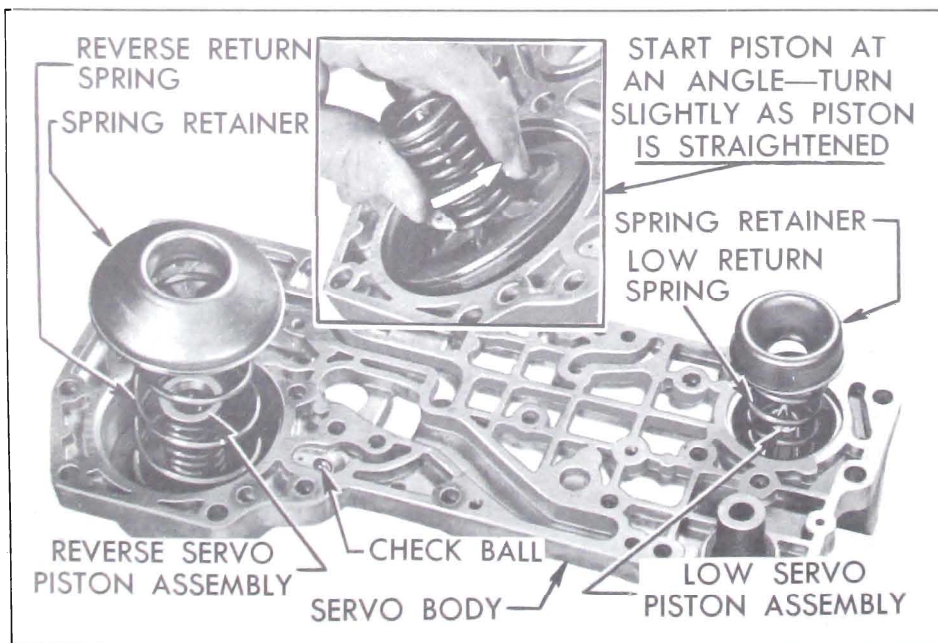

Figure 5-76—Parts Installed in Servo Body
3. Remove reverse and low servo piston spring seats, springs and pistons. Remove check ball from reverse servo feed channel. See Figure 5-76.
1. Oil and install the low and reverse servo piston assemblies in servo body. To avoid curling or damaging edge of piston seal, start each piston into cylinder at an angle then turn piston slightly as it is straightened and pushed into cylinder. See Figure 5-76. Check pistons for free movement in cylinders.
on upper ends of both springs. See Figure 5-76.
3. Place check ball in reverse servo feed channel. See Figure 5-76.